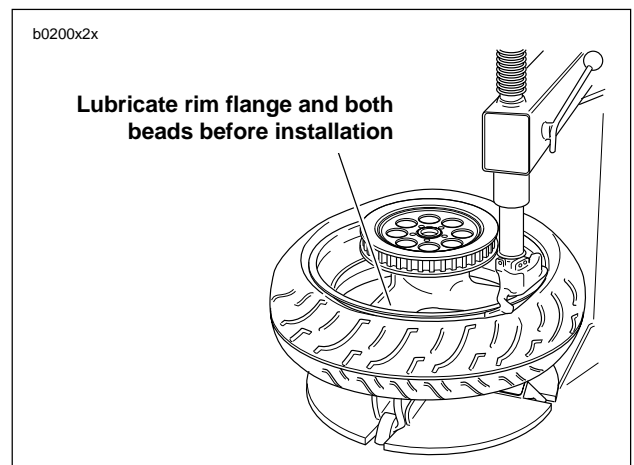

Figure 2-16. Starting Bead on Rim
4. See Figure 2-16. Starting at the valve stem, start first bead into the rim well using a bead breaker machine. If no machine is available, work bead on as far as possible by hand. Use a tire tool to pry the remaining bead over rim flange.